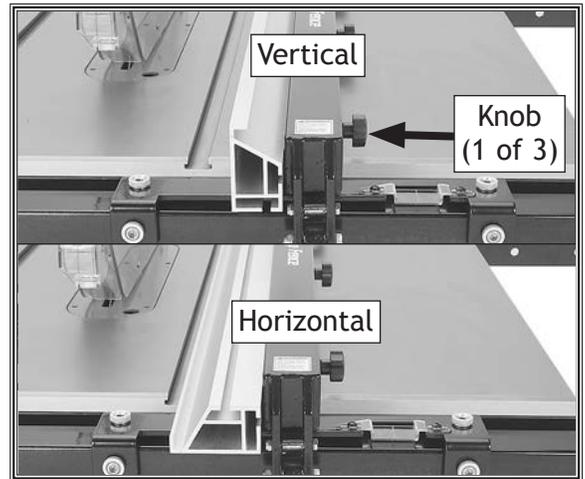

Figure 57. Rip fence positions.
5. Loosen fence knobs (see **Figure 57**), remove rip fence, then re-install in vertical position for thicker workpieces, or in horizontal position for thinner workpieces and angled cuts where blade is tilted over fence. Lift fence up and tighten each fence knob.
10. Use push stick to feed workpiece through saw blade, as shown in **Figure 57**, until workpiece is completely beyond saw blade.